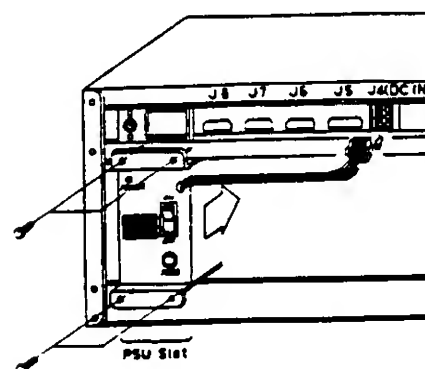

Figure 250-4 Installing PSE-DD-1 PSU.
D. One cable is provided with each PSE-DD-1 PSU. This cable is a 6 pin connector ended, DC IN power cable. Connect each DC IN power cable of each PSU to the 6 pin (J4) connector located immediately above in its CCU. (See Figure 250-4)